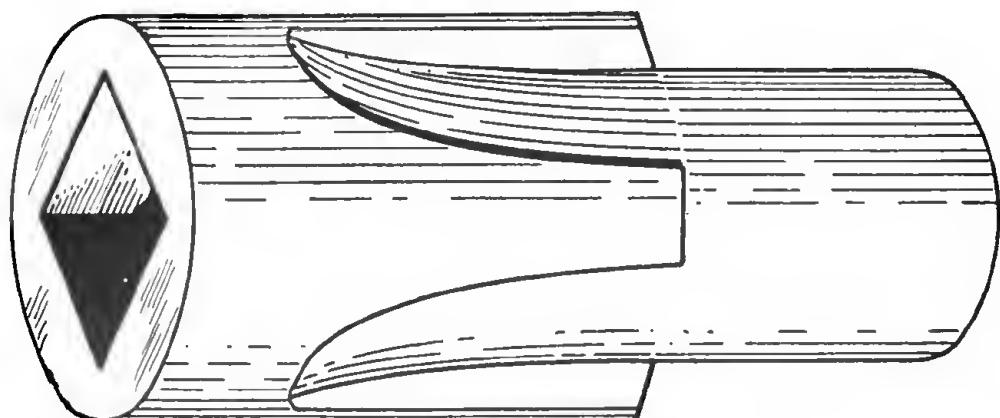

Figure 38. Oil-sump stud wrench.
q. OIL-SUMP STUD WRENCH. One end of this wrench is machined to fit the inside of the oil-sump plug. The other end contains a square hole for an extension bar. It is used to remove the oil-sump plug. In use it is similar to an ordinary socket except that it fits the inside of the plug instead of the outside. (See fig. 38.)